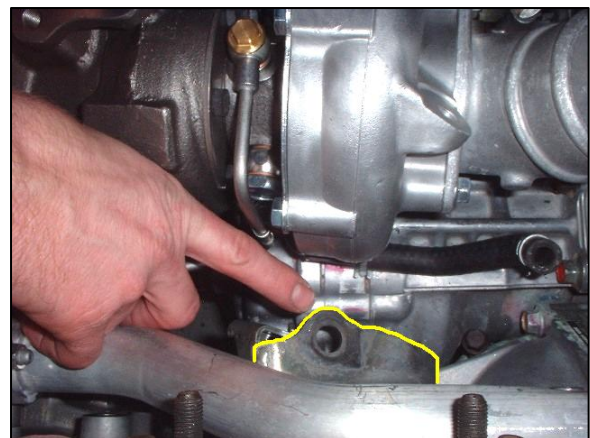

Fig. 36
38. Drop the Garrett turbocharger together with oil and water lines installed down into the engine bay. Rest the turbine housing carefully on the OE turbine housing support bracket, which is shown outlined in yellow in figure 36.